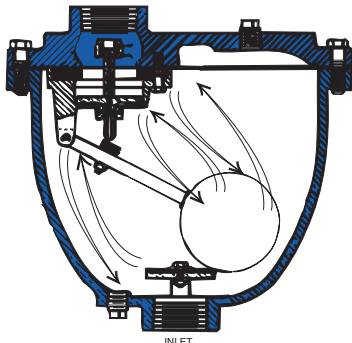

Figure 2. Air Exhausted and Air Intake During Pipeline Fill and Drain.
2. As air accumulates in the piping system and enters the valve, the float drops and the orifice button breaks contact with the plug stem. Accumulated air will vent through the plug stem. As the air is vented, the float raises once again and closes the plug stem orifice. See Figure 2.
- When the system is drained, the plug will reopen allowing air to rapidly re-enter the piping system. See Figure 2.